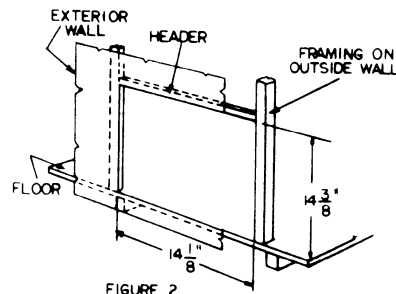

FIGURE 2
2. Cut outside wall opening $14\frac{1}{8}$ " wide by $14\frac{3}{8}$ " high. See Figure 2.